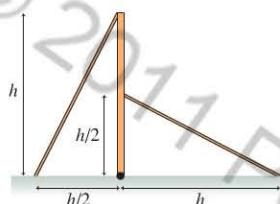

FIGURE P8.11
11. **II** Figure P8.11 shows a vertical pole of height h that can rotate about a hinge at the bottom. The pole is held in position by two wires under tension. What is the ratio of the tension in the left wire to the tension in the right wire?